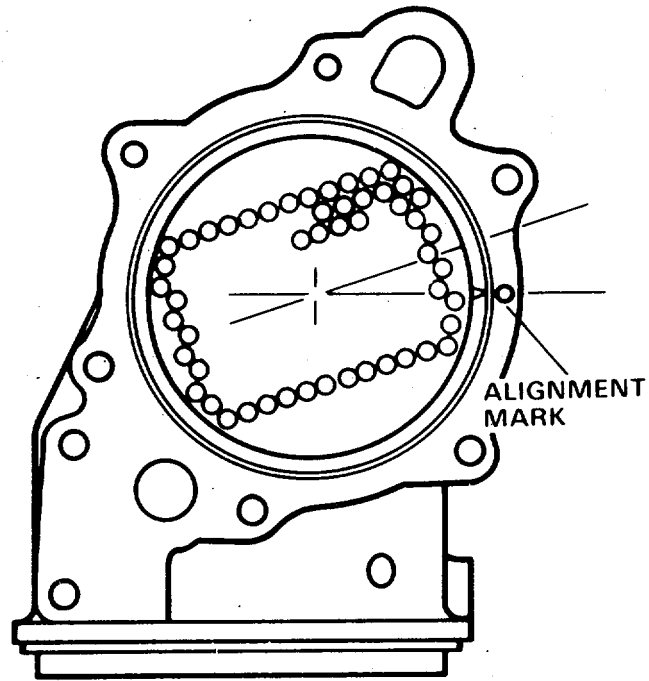
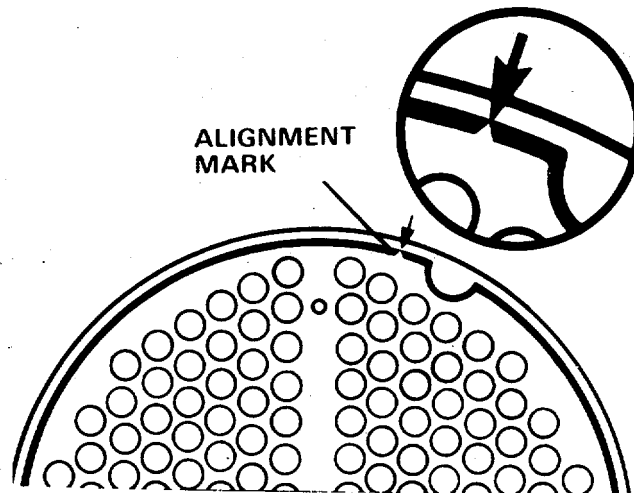

FIGURE 3-6. Aligning Index Marks.
FIGURE 3-7. Notch Type Index Marks.
- b. Align the index mark on the element with the index mark on the housing (FIGURE 3-6 or 3-7).
Some elements have two index marks. They can have an "O" on the tube end plate (FIGURE 3-6) or notch cut into the inside diameter of the rim (FIGURE 3-7) . Use the notch to align the element in the housing.